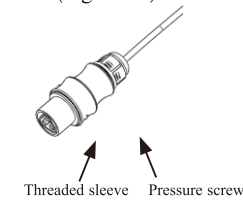

Figure 18
Step5: Screw down the pressure screw (Figure 18).